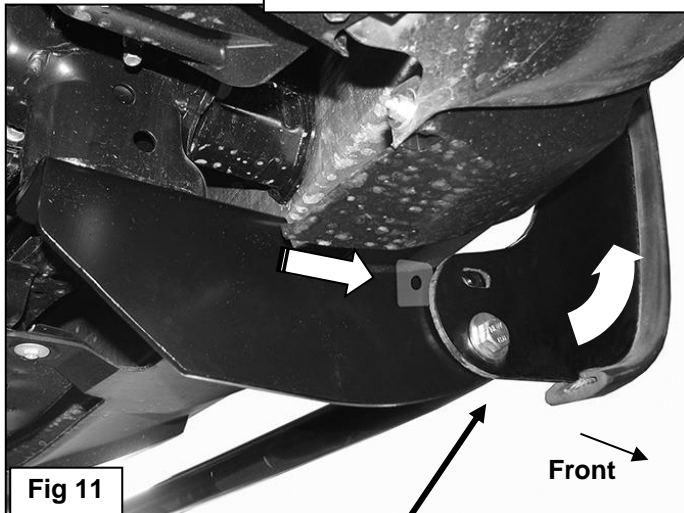

Fig 11
13. Insert (1) 12mm Plastic Washer between the Mounting Bracket and the Grille Guard. Line up the Grille Guard, Washer and Bracket and bolt together with the included (1) 12mm x 35mm Hex Bolt, (1) 12mm Lock Washer and (1) 12mm Flat Washer, (**Figure 11**).
15. Use the (2) previously installed 12mm Hex Bolts as a hinge. With assistance, carefully rotate the Grille Guard up to the vehicle, (**Figure 11**). Line up the two remaining holes in the Mounting Brackets with the holes in the Grille Guard. Repeat **Steps 13 & 14** to attach the Grille Guard to the Brackets, (**Figure 12**). Snug but do not tighten hardware at this time.